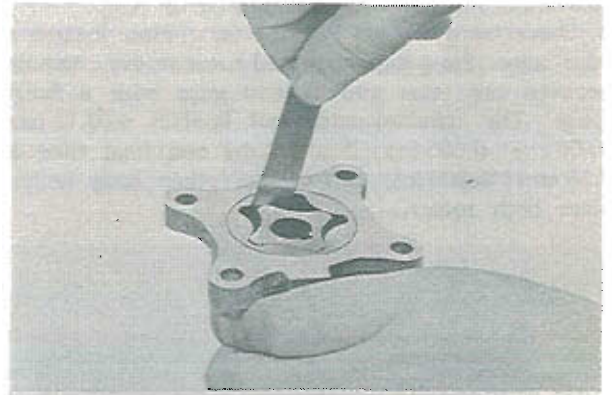

Fig. 2-3 Checking rotor clearance
1. Check the clearance between the lobes of the rotors with a feeler gauge, as shown in Fig. 2-3. The standard clearance is 0.01 ~ 0.09 mm (0.0004 ~ 0.0035 in). If the clearance exceeds **0.15 mm (0.006**